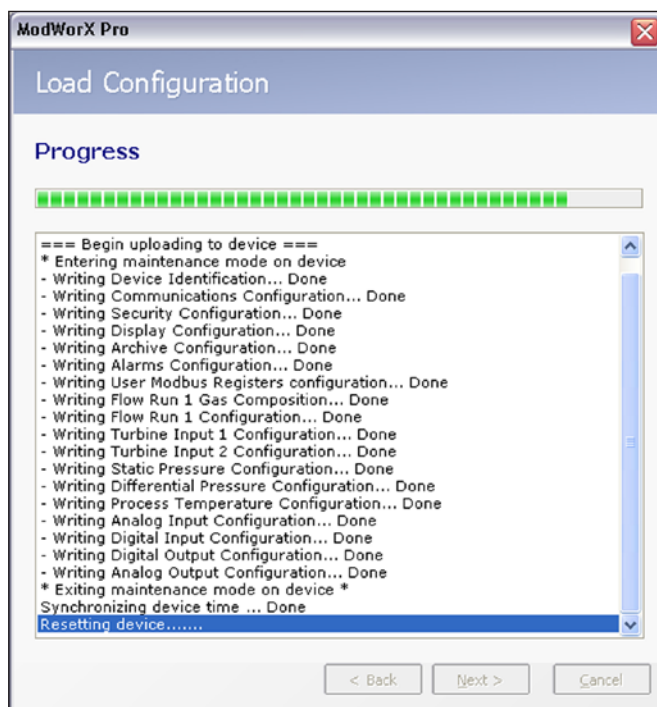

Figure A.6
8. Click **Next** to initiate the upload . A progress screen will be displayed throughout the upload (Figure A.6), followed by a confirmation screen when the upload has been successfully completed.